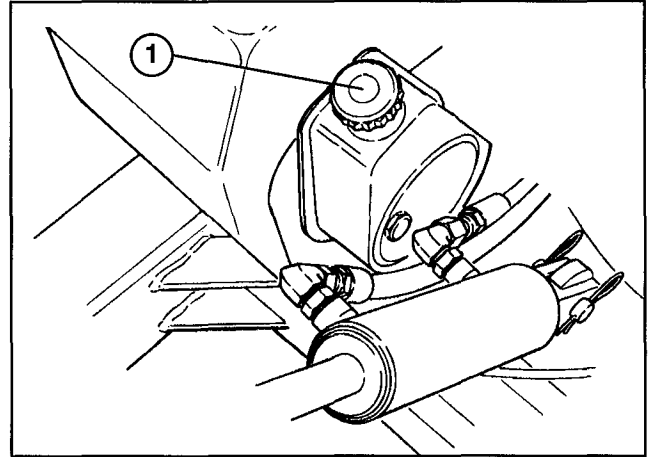

Figure 12
2. Remove dipstick cap (Fig. 12) from filler neck and wipe it with a clean rag. Insert dipstick cap into filler neck; then remove it and check level of fluid. If level is not within 1/2 inch from the full mark on dipstick, add SAE 10W-30 engine oil to raise level to full mark. Do not overfill.